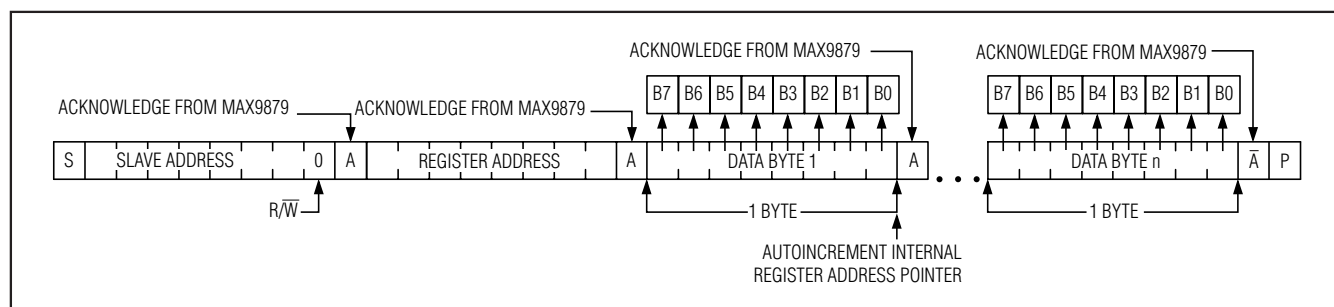

Figure 10. Writing n Bytes of Data to the MAX9879
MAX9879. Figure 10 illustrates the frame format for writing n bytes of data to the MAX9879.
The third byte sent to the MAX9879 contains the data that is written to the chosen register. An acknowledge pulse from the MAX9879 signals receipt of the data byte. The address pointer autoincrements to the next register address after each received data byte. This autoincrement feature allows a master to write to sequential registers within one continuous frame. Figure 10 illustrates how to write to multiple registers with one frame. The master signals the end of transmission by issuing a STOP (P) condition.